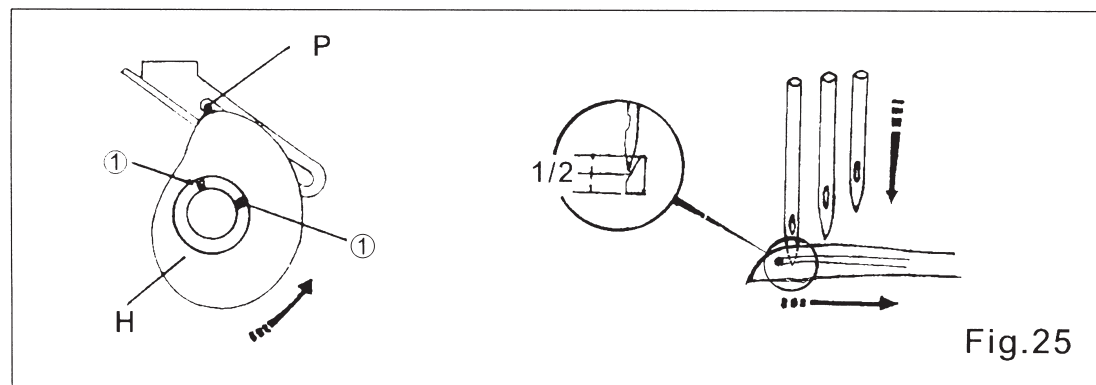

Fig.25
1. When Needle comes down from the highest position, and the left Needle reaches around 1/2 position of the Loper. (Fig. 25)